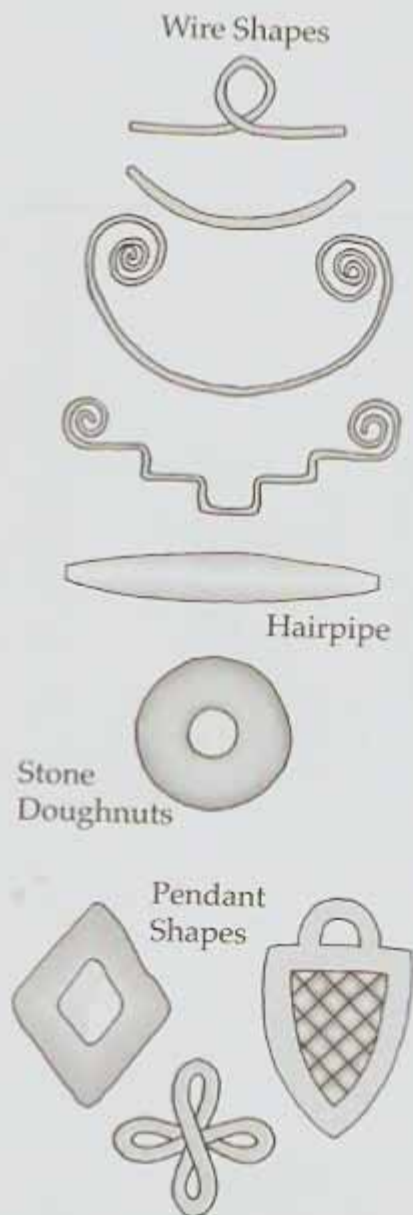

Fig. 3
3. Get acquainted with wire. I often use shaped wire as an armature for earrings or a necklace (see Figure 3). Basic wire working is not difficult to learn and the required tools are relatively inexpensive. To get started you'll need round-nosed and needle-nosed pliers, wire cutters, a good file, a hammer and a hammering block. There are many good books on the market for beginning wire workers.